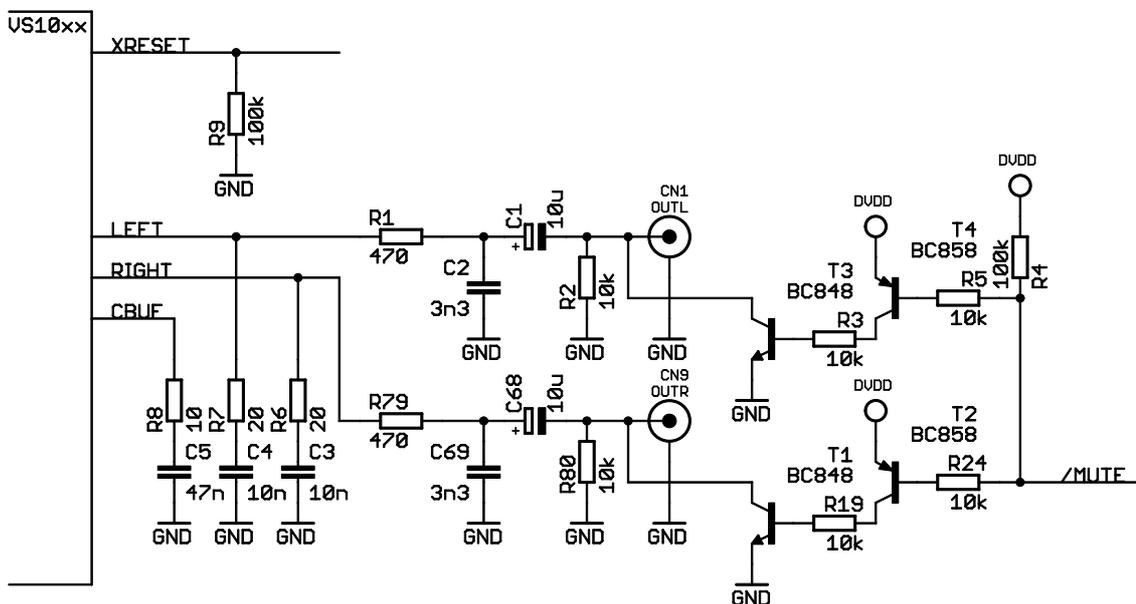

Figure 7: Transient free line-out connection
Figure 7 shows a high quality and cost-effective solution to the transient problem. The circuit uses bipolar NPN transistors to hold the outputs near ground level when the output capacitors charge. PNP transistors are used to drive the NPN's. This way when the output mute is off (the /MUTE signal is high) and the output signal goes below ground the NPN will not conduct due to reverse gain of the NPN.
- In Figure 7 R3 and R19 changed from 100ohms to 10kOhms.